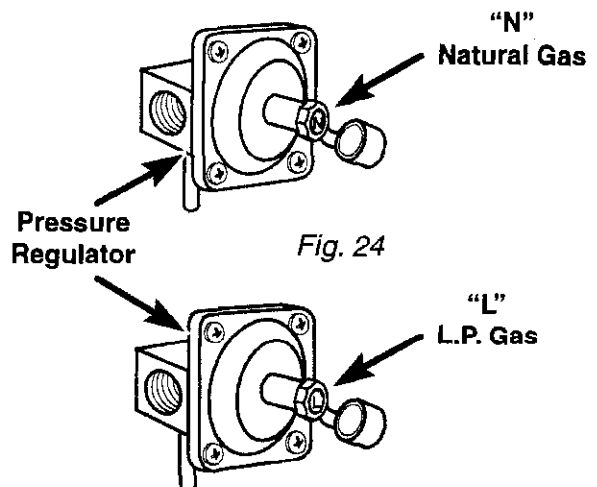
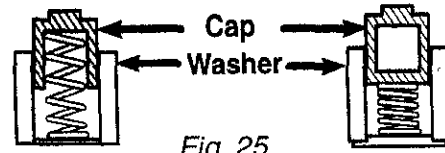

Fig. 24
Fig. 25
4. Pressure Regulator (Fig. 24): Turn cap marked "N" on front of pressure regulator counterclockwise with a wrench to remove. Do not disturb or remove the spring beneath the cap. (Fig. 25) Install cap on the regulator so that the letters "L.P." are visible. Close plastic cover over cap.